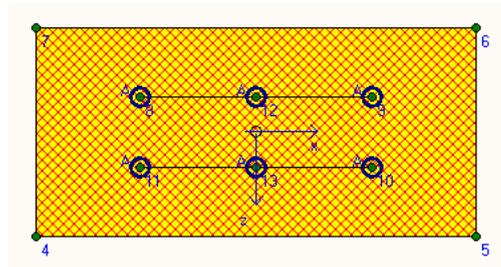

Figure 3.15 The selected Floor cluster
- Large displacement gradients are expected around and under the basement. Hence, it is appropriate to have a finer mesh around and under the building. Select the cluster that represents the basement floor. The floor is now indicated in red as shown in Figure 3.15. From the *Mesh* menu, select the option *Refine cluster*. As a result, a local refinement of the indicated cluster is visible in the presented mesh. Click the <Update> button to return.